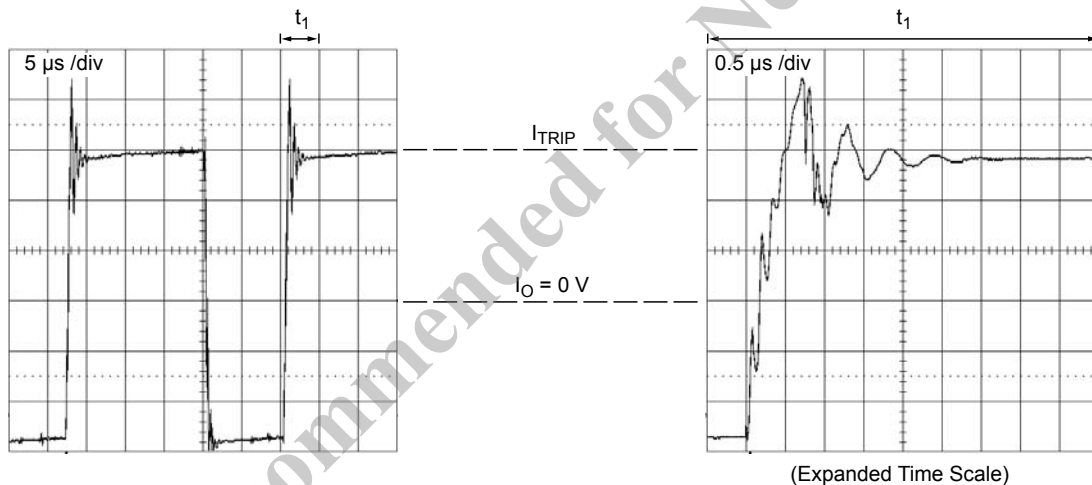

Figure 1. Operating waveforms on the  $R_{sx}$  pins during PWM chopping
**Blanking Time** The actual operating waveforms on the  $R_{sx}$  pins when driving a motor are shown in figure 1. Immediately after PWM turns off, ringing (or spike) noise on the  $R_{sx}$  pins is observed for a few microseconds. Ringing noise can be generated by various causes, such as capacitance between motor coils and inappropriate motor wiring.